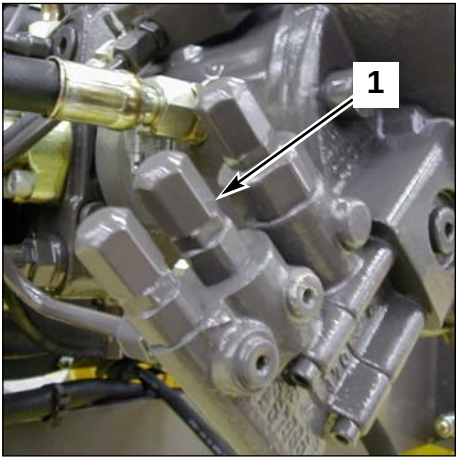

Fig. 5 Equipment pump
- 5- Turn the screw (1 fig. 5) clockwise in order to increase the ΔP .